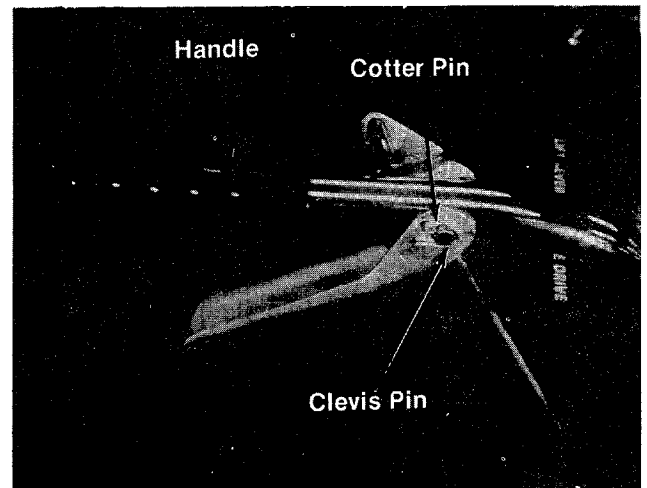

**FIGURE 7**
- Place the ferrule with the smaller hole, in the bracket on the right rear side of the mower and thread in the longer (39 inches) clutch rod until 1 3/8" extends through the ferrule. (See figure 7.)